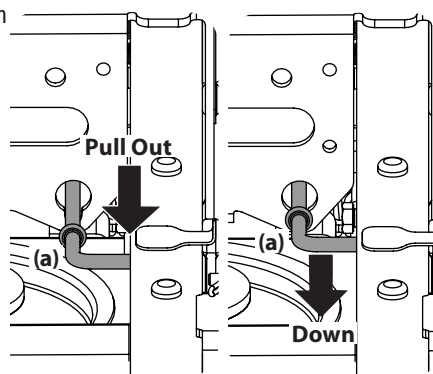

Figure 12
1. Engage the transmission bypass by pulling out on the bypass rod (a) and then placing it down in the slot before releasing. See Figure 12.